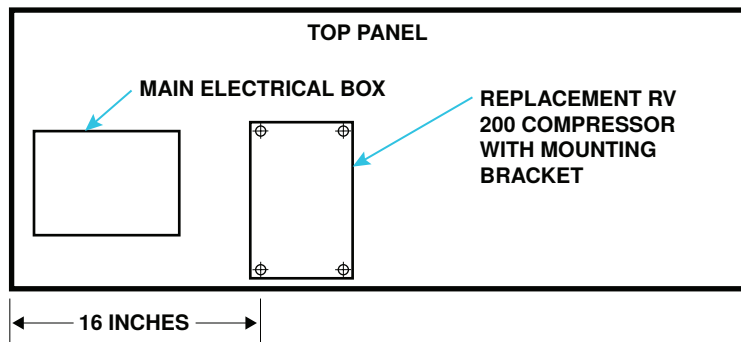

Figure 75. Mounting Replacement Compressor on Model RV 200
- (1) Secure mounting bracket (12) to bottom of replacement compressor using four 1/4-20 × 3/4 capscrews (13).
- (2) Position replacement compressor with mounting bracket as shown in Figure 75 and secure mounting bracket to top panel using four self-drilling screws (10).
- b. For all other models, secure replacement compressor to compressor-mounting shelf using four 1/4-20 × 3/4 capscrews (13).
- c. Reconnect tubing that was disconnected from barbed fittings on air manifold assembly in step 3c. Ensure that tubing connections to nozzle on oil burner assembly and to pressure switch are secure. Use tubing (14) from replacement kit as needed.
- d. For model RV 200 only—due to location of replacement compressor—run one section of tubing (14) to oil burner area and connect tubing to nozzle on oil burner assembly and to pressure switch using poly tee (15).
- e. Run replacement BX cable (8) to bottom of main electrical box and push wire leads through existing BX connector into box.